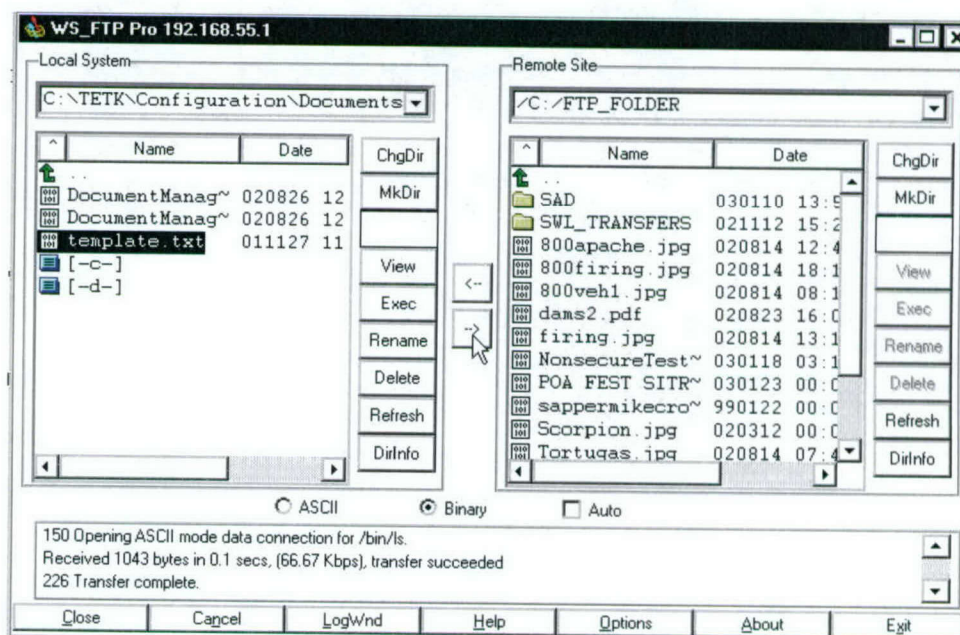

Figure 43. WS_FTP Window for moving files
- i. A WS_FTP window will appear, showing a folder and its contents for your PC (Local System) and for the TEOC TCE-F (Remote Site) (Figure 43). Freely change folders as desired, and move files between the two machines by highlighting the file(s) of choice and using arrow buttons in the center of the screen to define the "direction" of the transfer and to initiate the transfer.